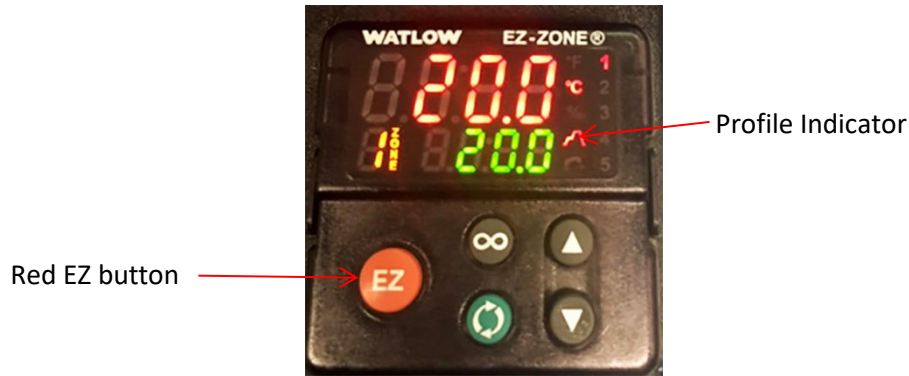

Figure 37: Red EZ Button and Profile Indicator on TESC
9. Press the red **EZ** button on the TESC. After pressing the red **EZ** button, the red Profile Indicator on the Watlow screen appears. Refer to Figure 37.